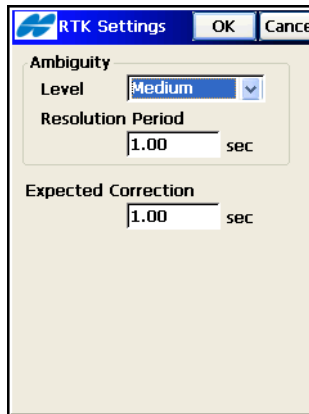

Figure 3-49. RTK Settings
- *RTK Settings*: opens the **RTK Settings** screen (Figure 3-49) to set ambiguity resolution parameters for RTK engine.
The **RTK Settings** screen (Figure 3-49) sets parameters to govern the RTK engine.